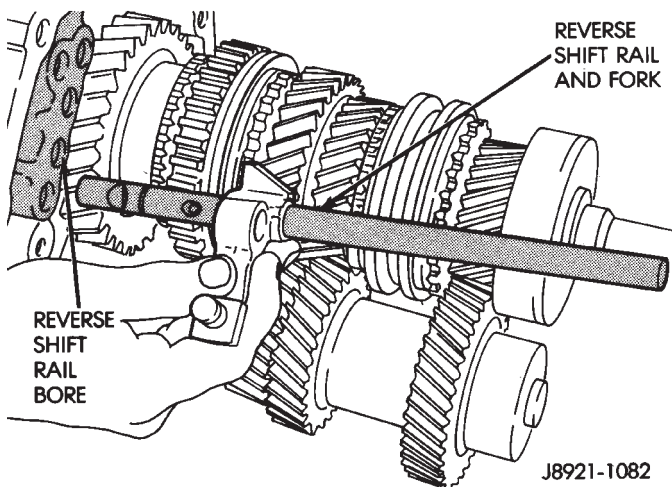

Fig. 78 Remove Reverse Shift Rail
(31) Remove the reverse shift rail and fork from the intermediate plate (Fig. 78).